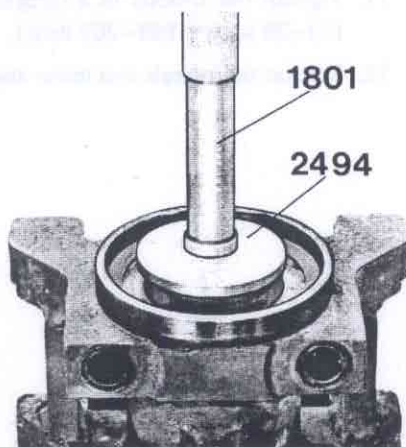

Fig. 76-10. Installing the needle bearing
1. Press in the needle bearings with drift 2494 and standard handle 1801, see Fig. 76-10. Press in the bearings so that they are flush with the cradle.